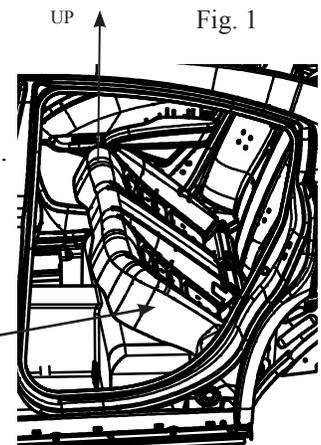

Fig. 1
- A. Begin by lifting the front of the lower seat cushion out from the plastic snaps in the floor. Once the seat is free, remove it from the vehicle (See Fig. 1).